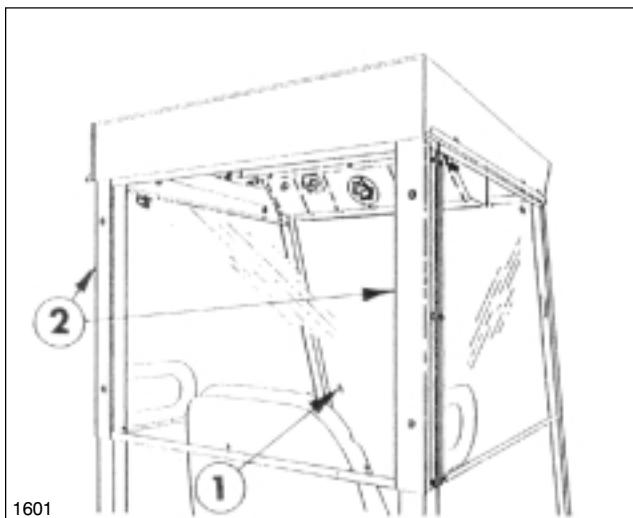

FIG. 6
21. Slide the Blower Assembly forward until Blower Flange meets with top of Front Window. Slide ROPS Cross Bar as far forward as it will go and tighten the (6) 1/4" flange hd. cap screws.
22. Loosely mount the Rear Window and (2) Window Clamps to rear ROPS Bar by screwing (4) 1/4" x 3/4" flange hd. bolts into the ROPS bar. Slide Rear Window up to meet the lower rear flange of the Enclosure Cover. Tighten bolts securely. See FIG. 6.